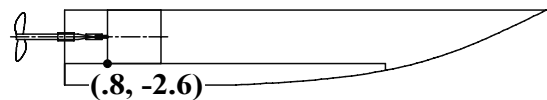

FIG. 10
Step 11. To indicate the position of the rectangle in the Top View click point **(.8, 1)**, **Fig. 10**.
Step 12. To indicate the position of the rectangle in the Side View click point **(.8, -2.6)**, **Fig. 10**.